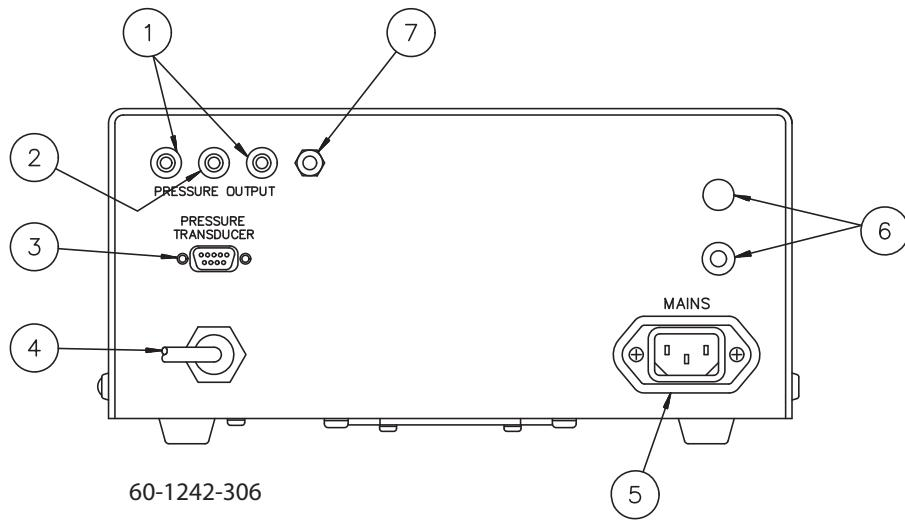
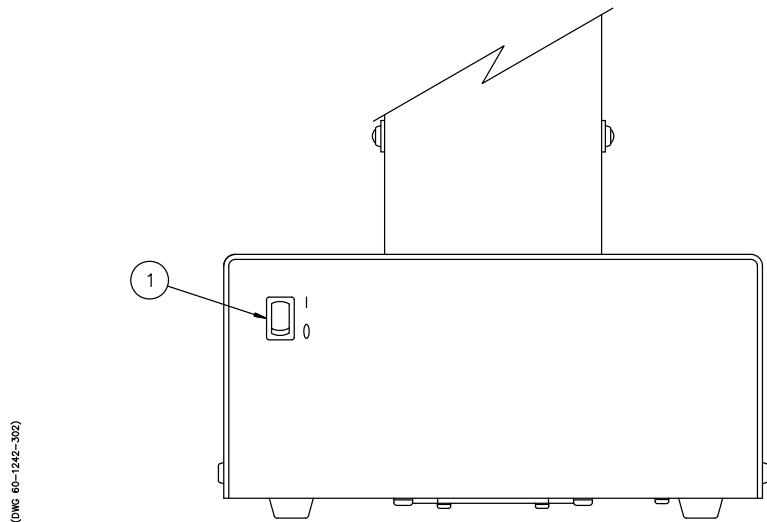

Figure 1-6 Pump rear panel connectors
Figure 1-7 Pump front panel controls
The only operational control on the pump itself is the standby switch, shown in Figure 1-7. The rear panel has several connectors, described in Table 1-11, and shown in Figure 1-6.
1. Connect the pressure transducer cable (which originates from the top of the pump cylinder) to the nine pin sub-D PRESSURE TRANSDUCER connector on the pump rear panel (Figure 1-6). Be sure to tighten the thumbscrews.